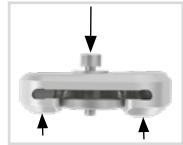

Fig. 5
- 2 Place the washer on the cover plate and screw the pressing screw into the thread of the first screw (S1). The pressing screw must not be screwed in completely (fig. 5).
- 3 Push the joint's upper part and the cover plate apart by exerting force on them as illustrated (arrows in fig. 5). This can be achieved by using a vice or by controlled knocks (e.g. with a soft-faced hammer).